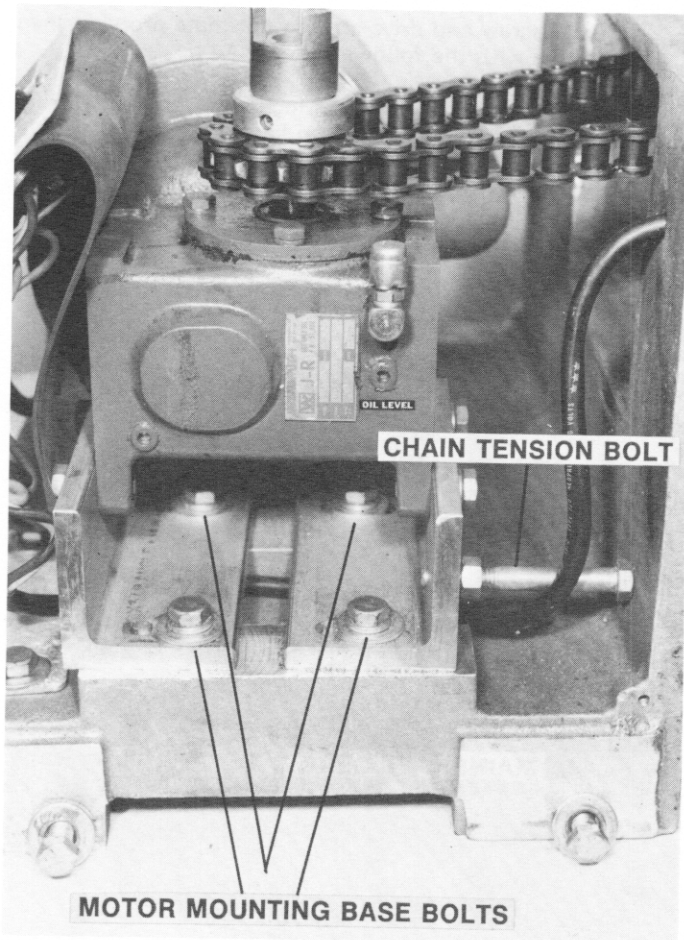

Figure 15 — Chain, Motor Mounting Base Bolts and Chain Tension Bolt
- D. Slacken chain by loosening the four motor mounting base bolts and the chain tension bolt (see Figure 15).